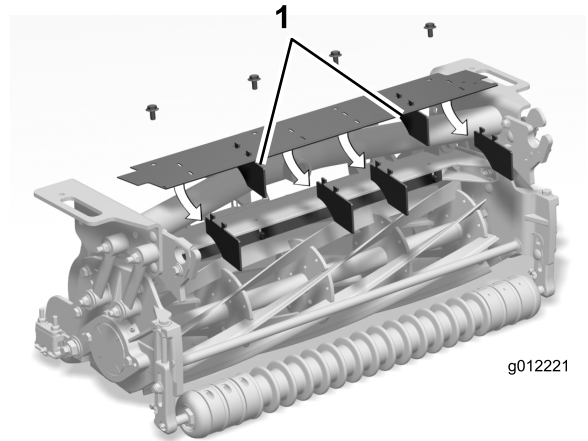

Figure 9
1. Remove the 2 center deflectors and the deflector from each end of the shield, leaving only the 2 shown in Figure 9.